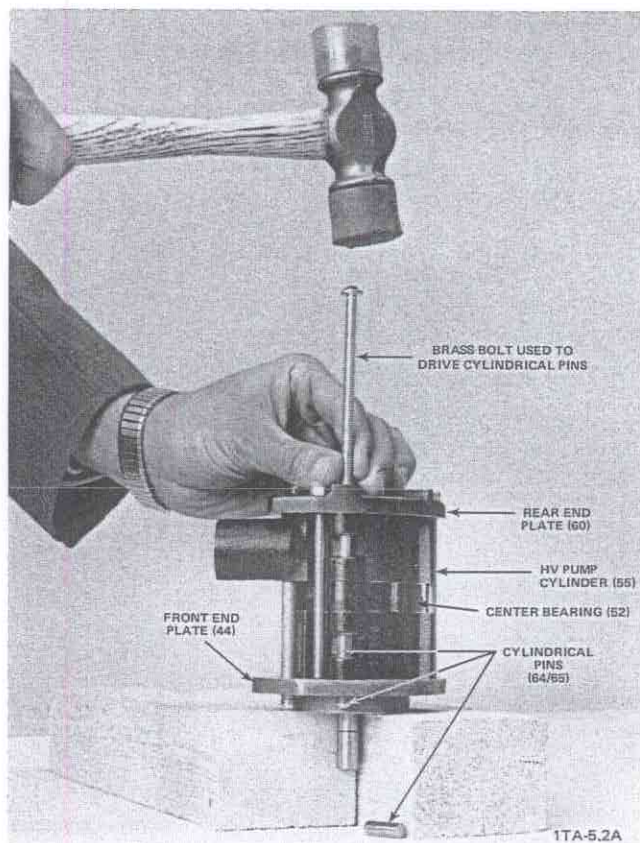

Figure 5-5. Removing the Cylindrical Pins From the Module (D2A Pump Model Shown)
Using a hammer and a drift pin (or long bolt), remove the cylindrical pins as follows (see Figure 5-5).
**NOTE:** On some pump models, this pin (64) does not have room to fall out. In this case, continue driving it until all three pins fall out of the alignment hole in the front end plate (44).
- b. While keeping the drift pin (or bolt) inserted through the rear-end-plate alignment hole, drive the long cylindrical pin (65) toward the front end plate (44). Continue driving the cylindrical pins
until the long pin (65) forces the other short pin (the one that aligns the front end plate (44) and the second stage pump cylinder) to fall out, and then the long pin also falls out of the front-end-plate alignment hole (see Figure 5-5).